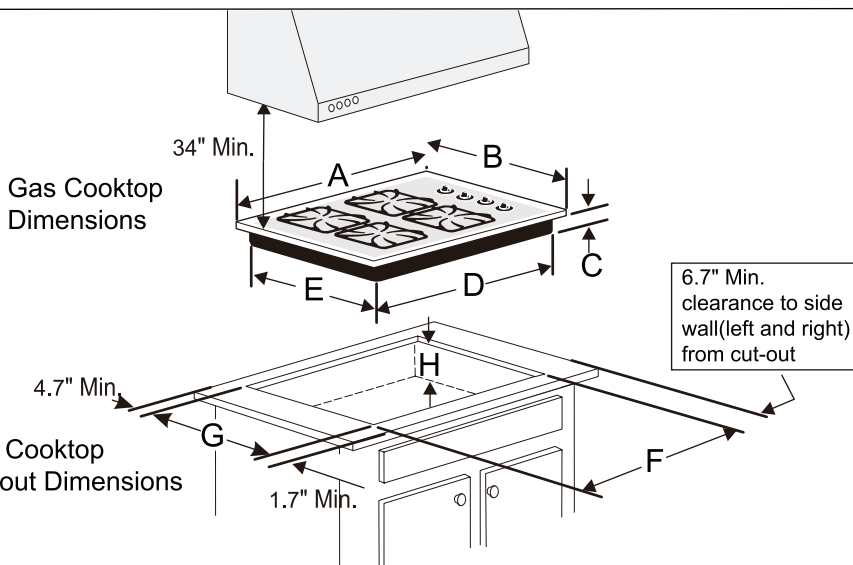

Fig.7
- c. The cupboard should be positioned near to the worktop at a height of 18" at least(Fig.7).